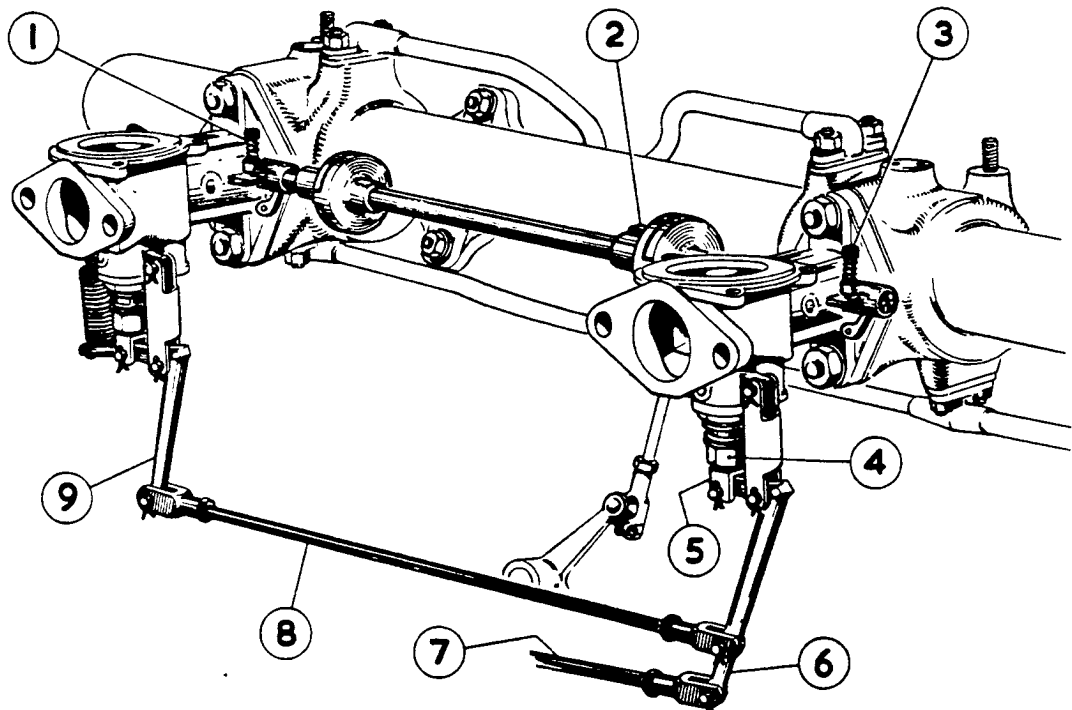

FIG. 2. VIEW OF CARBURETTOR CONTROLS (CARBURETTORS PARTLY DISMANTLED FOR CLARITY).
NOTE: There are only two adjustments on the S.U. Carburettor i.e. the jet adjusting nut (4 Fig.2) for the mixture, and the idle adjusting screw (3) for the idling speed.